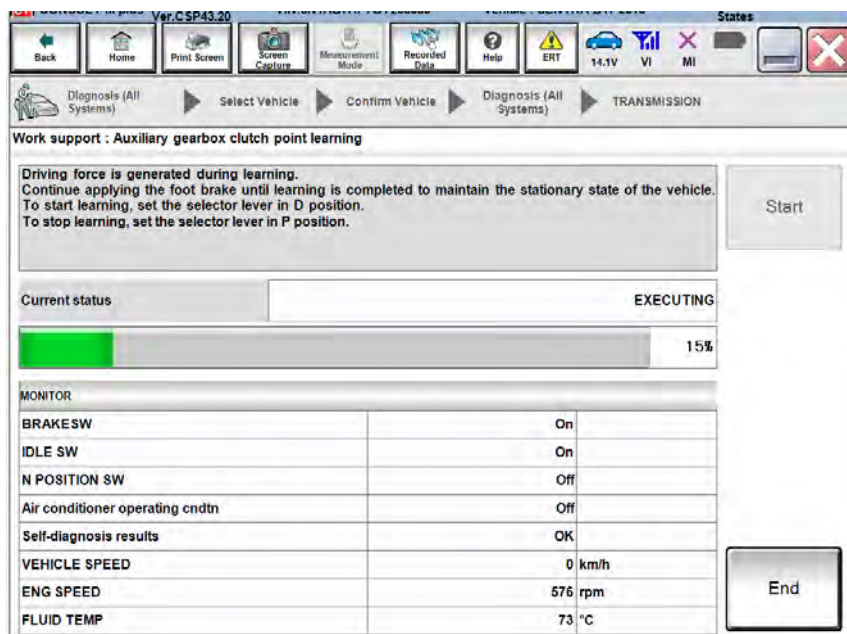

Figure 44
- Figure 44 will be displayed after shifting into D position.